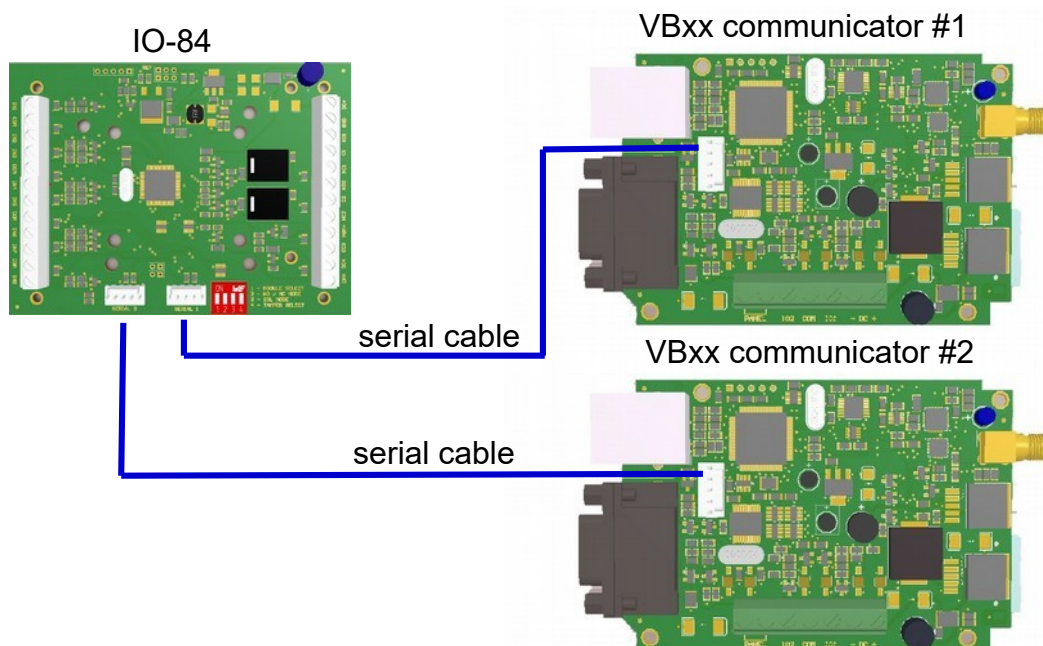

Figure 2. : Dual operating mode – two communicators, one common IO-84 module
When using the IO-84 I/O Expansion modul in „Dual“ mode, it can support two VB series communicators at the same time. In dual operating mode, the (7) serial port jumpers must be left open. This ensures, that the primary and secondary serial ports are independent, and it makes possible to connect two different communicators to them. The schematic of the dual operating mode can be seen on Figure 2. on page 9.